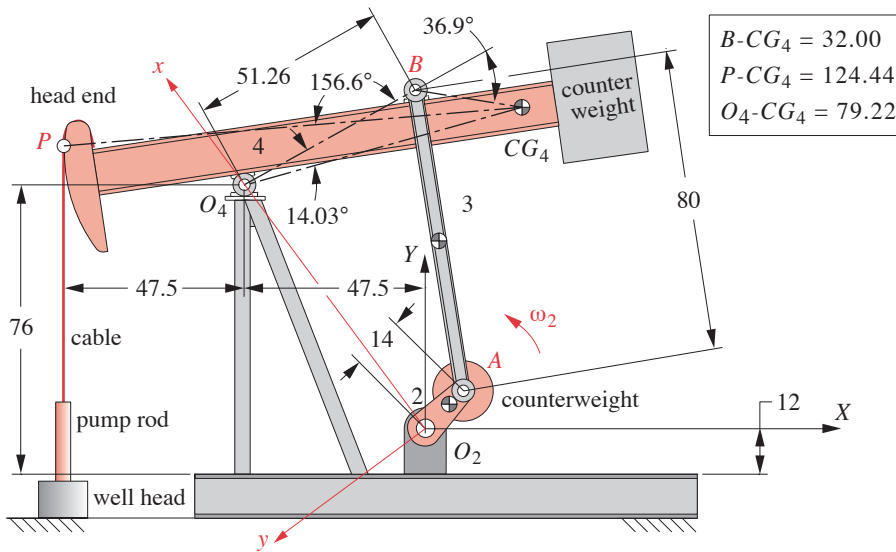

FIGURE P3-19
- 3-43 Figure P3-19 shows an oil-field pump jack. For the position shown, draw free-body diagrams of the crank (2), connecting rod (3) and walking beam (4) using variable names similar to those used in Case Studies 1A and 2A. Assume that the crank turns slowly enough that accelerations can be ignored. Include the weight acting at the CG of the walking beam and the crank but not the connecting rod.